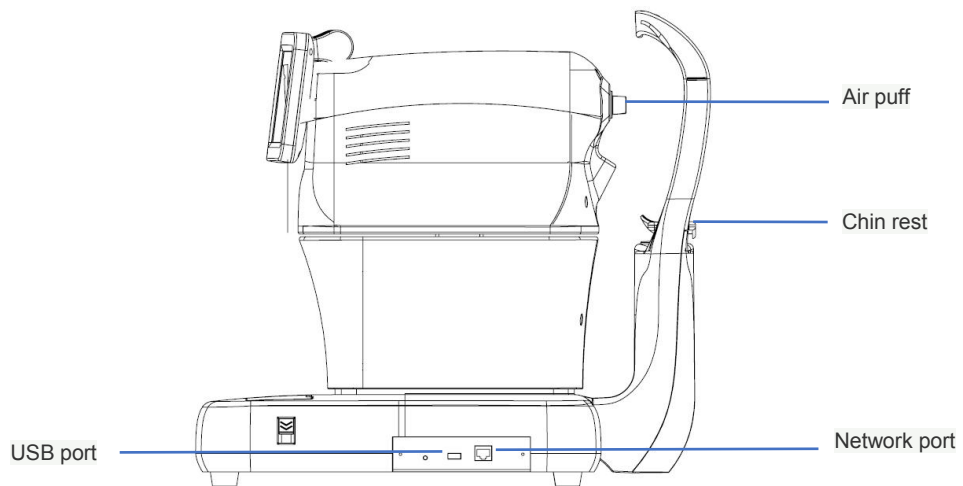

Figure 5 Side view of host
2) Side view of host (Figure 5,6)